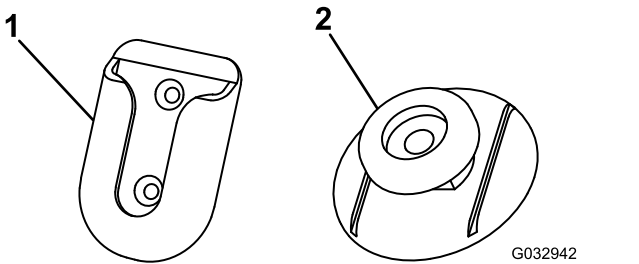

Figure 25
3. Clean the back of the swivel mount (Figure 25) with the alcohol wipe and then dry it.
7. Remove the backing from 1 side of the adhesive and apply it to the back of the mounting tab (Figure 25).